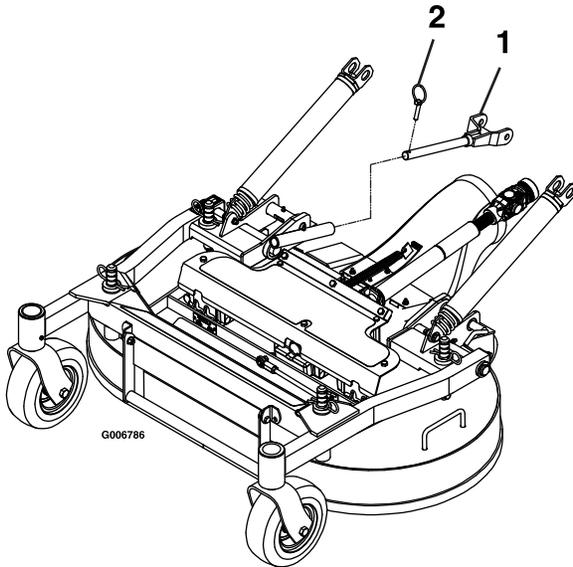

Figure 76
6. Remove the lynch pins at the front of the push arms on both sides of the machine (Figure 76).
6. Secure the push arms with the lynch pins on the left and right sides of the machine (Figure 76).